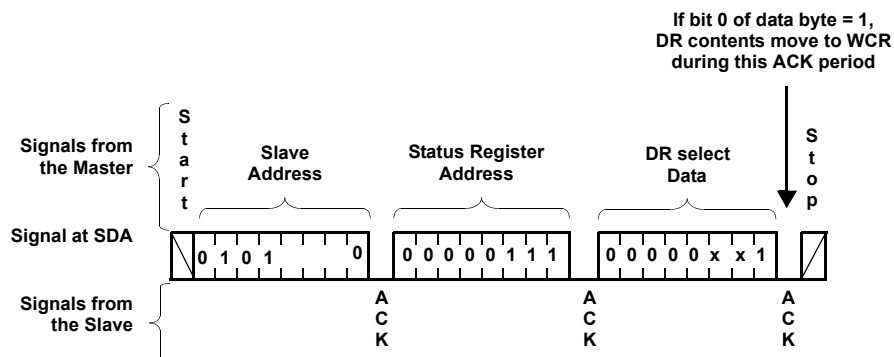

FIGURE 6. STATUS REGISTER WRITE (USES STANDARD BYTE WRITE SEQUENCE TO SET UP ACCESS TO A DATA REGISTER)
1. Load the status register (using a write command) to select the row. (See Figure 6.)